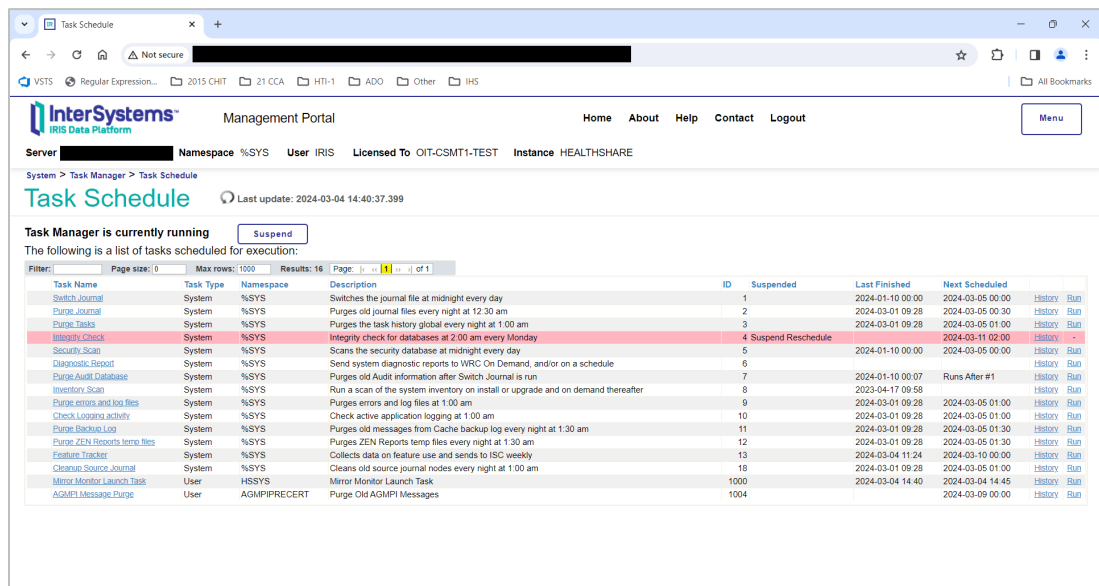

Figure 7-4: **View Task Schedule** page with **AGMPI Message Purge** task displayed
16. Click **Finish** to display the **View Task Schedule** page with the new task at the bottom of the page, as shown in Figure 7-4.